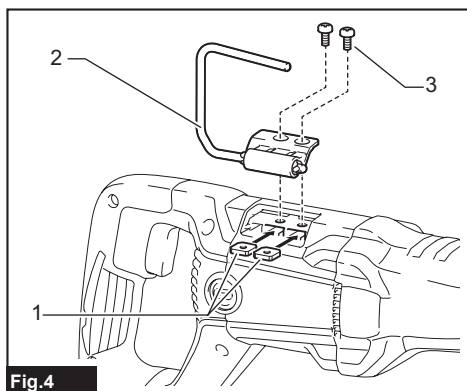

Fig.4
► **Fig.4:** 1. Square nut 2. Hook 3. Screw